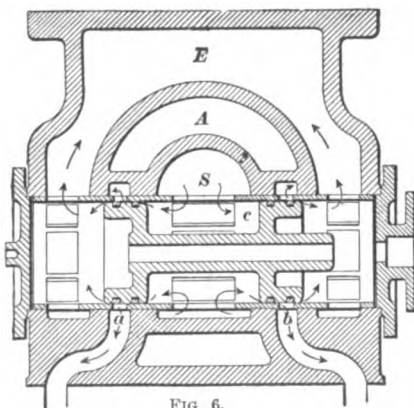

FIG. 6.
**56. Test for Blow in Piston Valve.**—To test for a blow through the rings of a piston valve, place the valve in mid-position, as shown in Fig. 6, so as to cover the steam